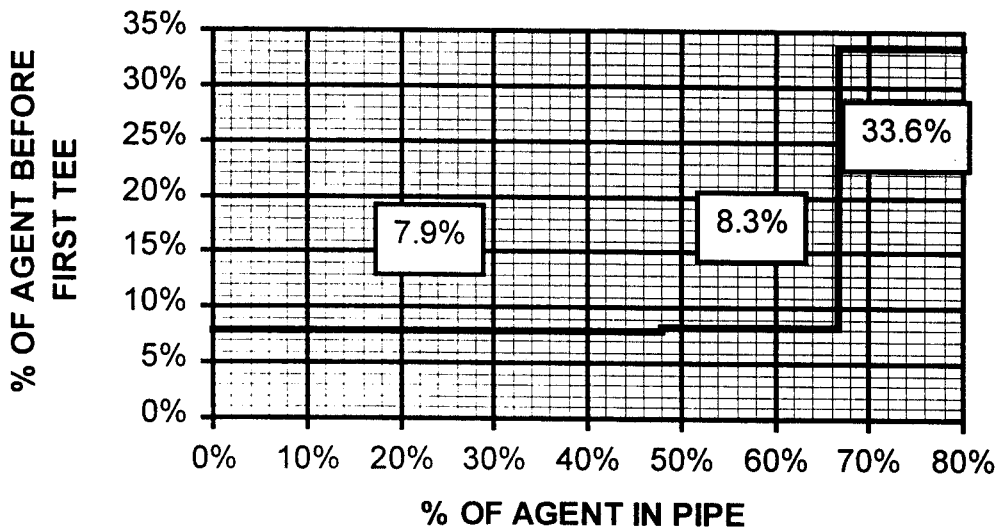

Figure 3.3.1 Percent agent before First Tee as a function of Percent agent in Pipe
3.3.1 First Branch Flow Split. For accuracy of the flow calculations in unbalanced systems, any branch line must be covered by the liquid phase at the equilibrium design point (i.e., when one-half the liquid phase has been discharged through the nozzles). When this condition is not met, the computer output will display a warning. It is then up to the system designer to correct the piping volume preceding the first branch split to meet this design requirement (See Figure 3.3.1).